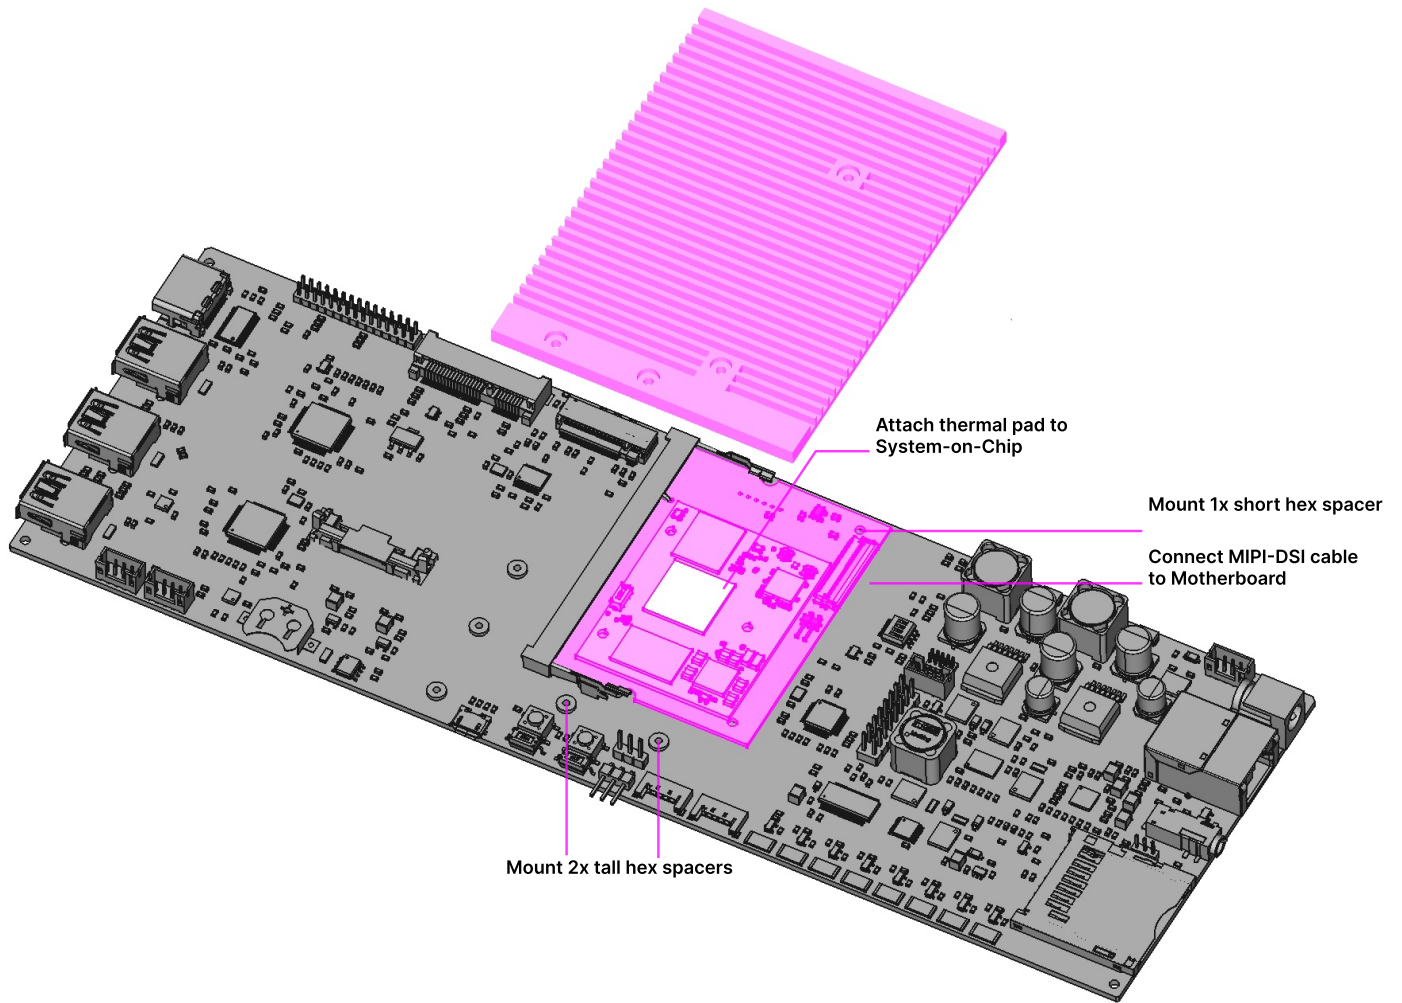

Figure 1: Installation of i.MX8MPlus module
4. Install the included heatsink using the thermal pad for heat transfer between the module's System-on-Chip and the heatsink. See **Figure 1** for reference. After placing the spacers, mount the heatsink with 3x included M2 screws.